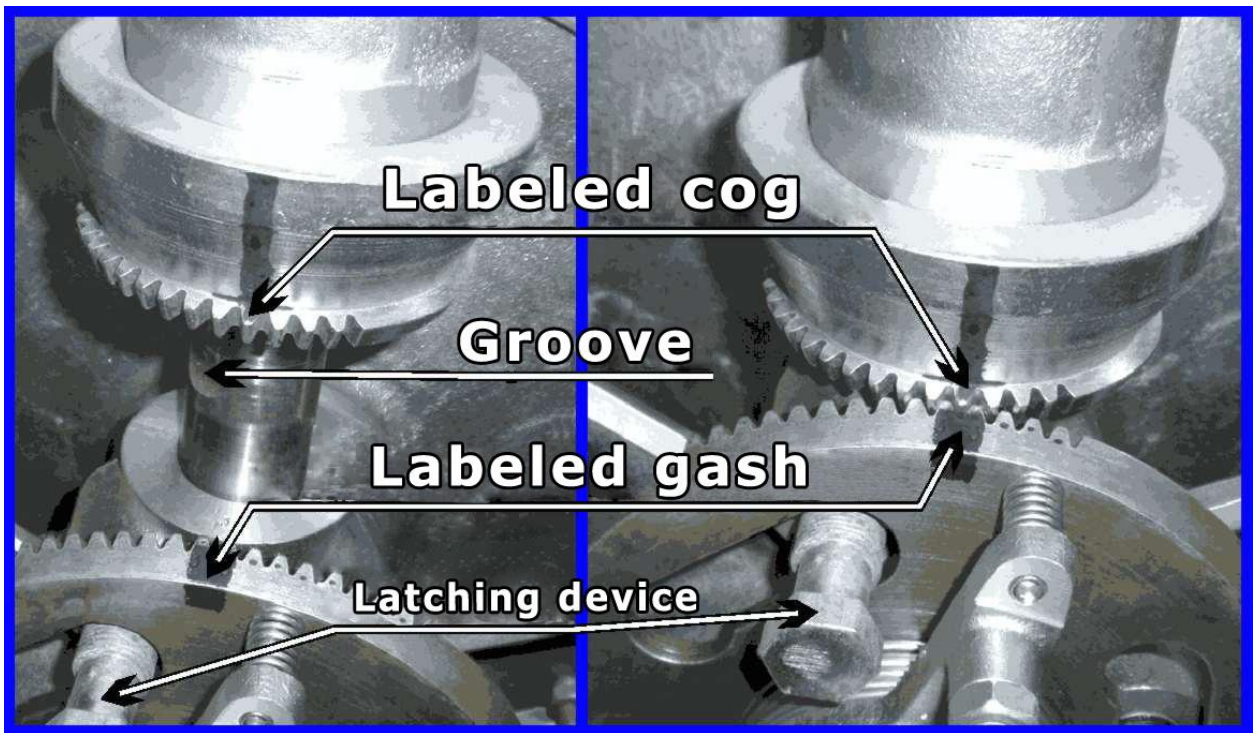

Fig.4.
13.2. The groove (non cylindrical) on the blade axel (6) should be oriented so, that latching device (3) will enter into it.(Fig.4)